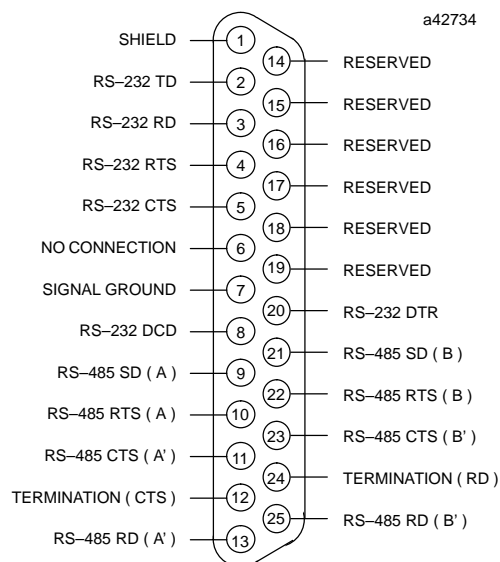

Figure A-1. Serial Port Pin Assignments for the Series 90-70 PCM
In figure A-1, SD (Send Data) and RD (Receive Data) are the same as TXD and RXD (used in Series Six PLC publications). (A) and (B) are the same as – and +. A' and B' denote inputs, and A and B denote outputs. To terminate the RS-485 CTS input signal, jumper pins 11 and 12; to terminate the RD input signal, jumper pins 24 and 25.